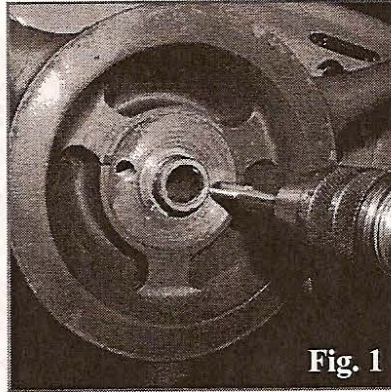
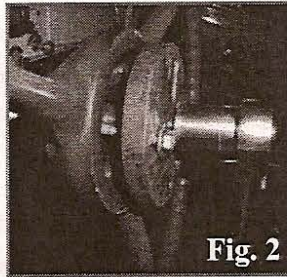

Fig. 1
Fig. 2
2. I drilled two holes and tapped them for 5/16-18 bolts in the steel ring in the center of the steering wheel (Fig. 1). I was careful not to drill holes too deep, as the holes will come out into the side of the steering wheel. I placed a puller over the steering wheel, and snugged up the outside 5/16-18 mounting bolts while also turning in the center screw down on the steering shaft (Fig. 2). While holding the steering wheel, I turned the center screw and the steering wheel pulled off the shaft. (When you do this procedure be careful to save the keyway that holds the steering wheel to the steering shaft.)